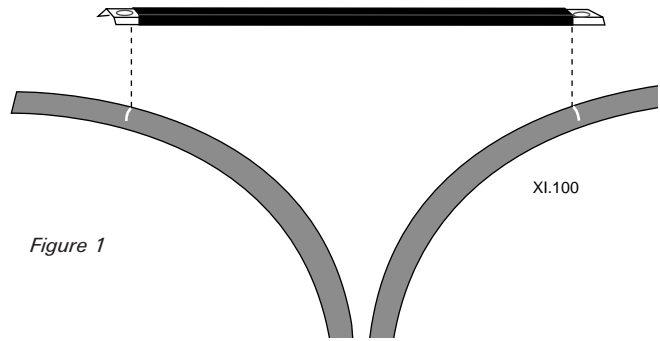

Figure 1
1. Clean cable sheath. Do not use cleaning tissue at this time. Using the provided bond bar, mark the cable at the outboard edge of the inner holes. Make appropriate sheath opening using these marks. (Figure 1)